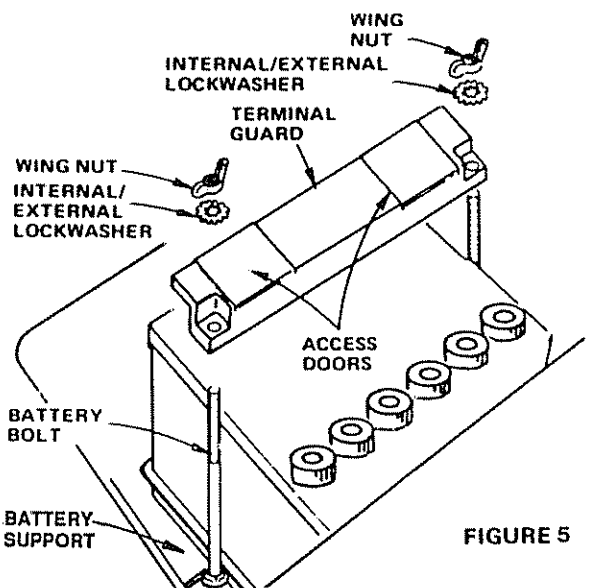
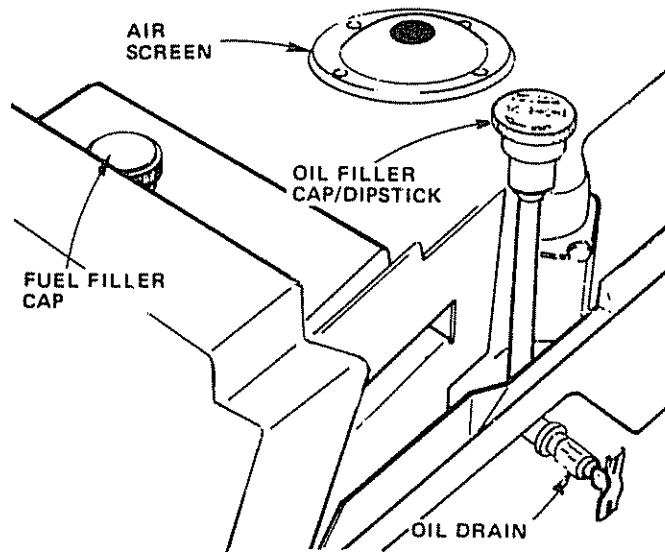

FIGURE 5
FIGURE 6
- f. Using the key hole on one side of the battery support (Fig. 6) slide battery bolt into frame key hole (head of bolt down). Fasten the battery bolt to the terminal guard using internal/external lockwasher, wing nut, (shown full size on pg. 6) as shown in Fig. 5.
- g. Assemble the remaining battery bolt to other side of battery support and fasten terminal guard to it with remaining internal/external lockwasher and wing nut, (Shown full size on pg. 6). Tighten wing nuts securely by hand (Fig. 5).
- Fill fuel tank (Fig. 6). Use fresh, clean, regular unleaded gasoline. Capacity is 5 quarts.